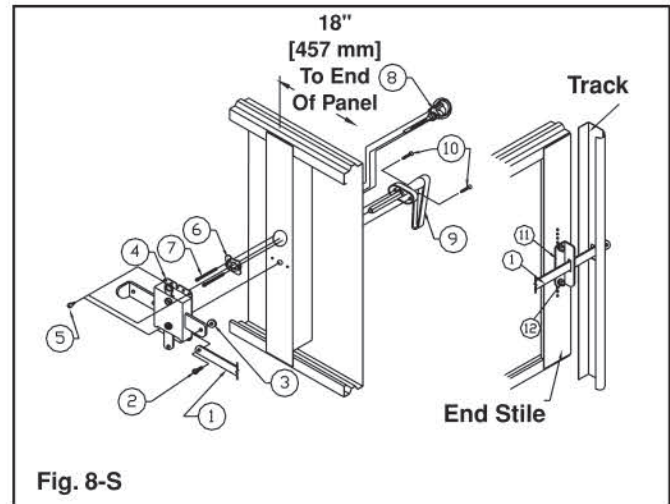

Fig. 8-S
Step 1: Bottom Section. Find bottom section (the one with bottom weatherseal), then lay it on saw horses. Find bottom bracket in hardware carton. Several different types are used depending on door thickness, door weight, and track size. Find the type of bottom bracket supplied in one of the pictures shown in Figure 1-S and fasten bottom bracket using the red-colored fasteners shown. (Low headroom doors refer to Figure 8-T, page 23.)
- Side Lock (FIG. 8-S)
2. Finally, attach the lock bar (11) using 1¹/₄" - 20 x 1" [6 mm x 25 mm] hex head screw and nut (10 & 12), and lock bar guide (14) using #14 x 5/8" [6 mm x 16 mm] sheet metal screw. When track is permanently in place, adjust the lock bar guide so lock bar rests against the top of one of the engaging slots in the track. Details are shown in Figure 8-S.